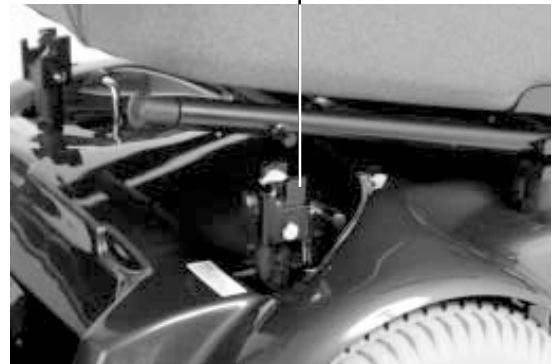

Figure 10. Front Towers
2. Push the seat back and down until the latches engage on the front seat towers. See figure 10.